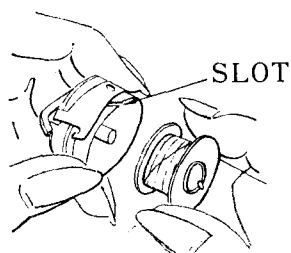

Fig. 5
1. Hold bobbin case between thumb and forefinger of left hand, so that the slot in the edge of the bobbin case is on top as shown in Fig. 5.